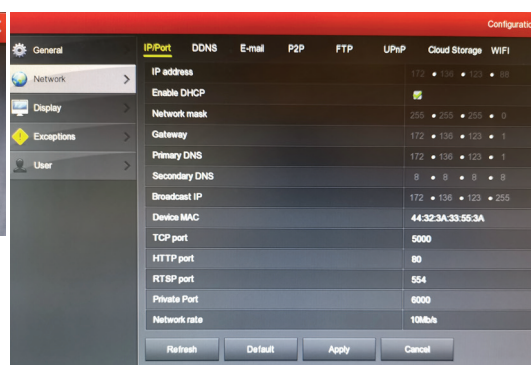

Fig.8
- The next screen is used to adjust network settings. In the case of a permanent IP address, enter it in corresponding fields. In the majority of cases, dynamic DHCP address assignment should be enabled by checking the "Enable DHCP" box and default port settings (Fig. 8).